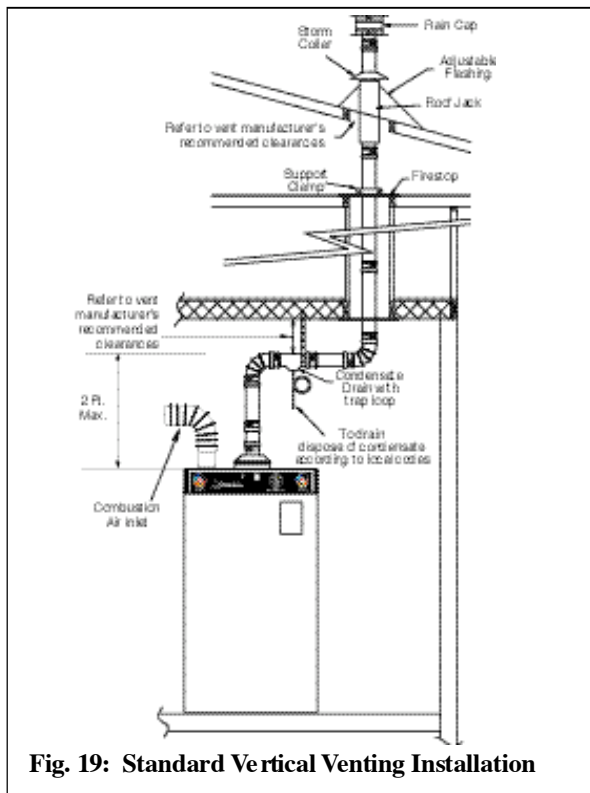

Fig. 19: Standard Vertical Venting Installation
- a. The vent system must contain a condensate trap located no higher than 2 feet above the unit. As shown in Fig. 19 page 34.
A vent condensate tee and drain tube should be installed on a horizontal run of vent near the appliance to prevent any potential condensate from entering the flue ways on the unit. See Figs. 19 through 22B pages 33 and 34.
To prevent flue gases from entering into the building it is important the drain tube is fashioned into a "pigtail" trap as shown in Figs. 19 through 22B pages 33 and 34.